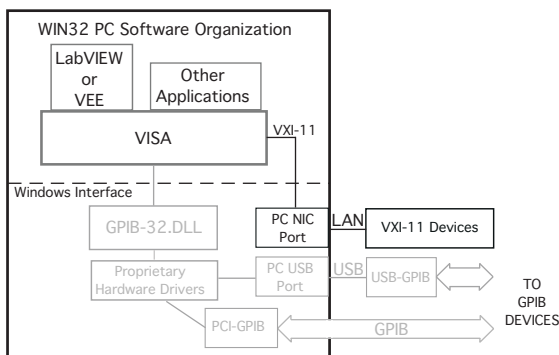

Figure 3-2 VISA to VXI-11 Communication Path
VISA libraries provide an standardized application interface for user programs and outputs that communicate with standard hardware ports such as PC COM ports, PCI bus, and USB ports. VXI-11 compliant VISA libraries provide VXI-11 calls over the TCP/IP network to communicate with VXI-11 instruments as shown in Figure 3-2. Agilent, Kikusui and National Instruments (NI) provide VXI-11 capable VISA and SICL libraries. While all three VISA libraries run in WIN32 operating systems, VISA libraries variations are available for some UNIX, LINUX and other operating systems.